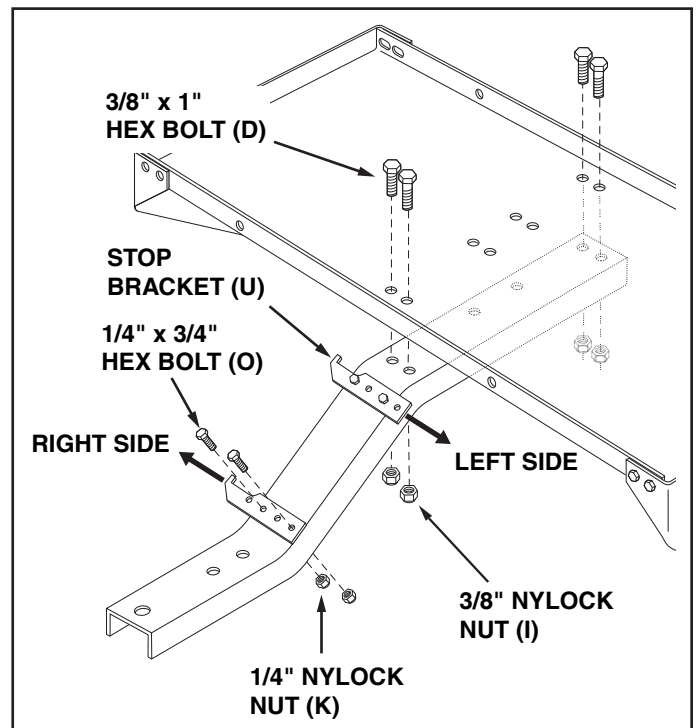

FIGURE 6
- Assemble the tongue to the tray using four 3/8" x 1" hex bolts (D) and 3/8" nylock nuts (I) as shown in figure 6. **Tighten.**
- Assemble the two stop brackets (U) to the tongue using four 1/4" x 3/4" hex bolts (O) and 1/4" nylock nuts (K). Position the bottom bracket as far to the right side as possible. Position the top bracket as far to the left side as possible. **Tighten.** See figure 6.